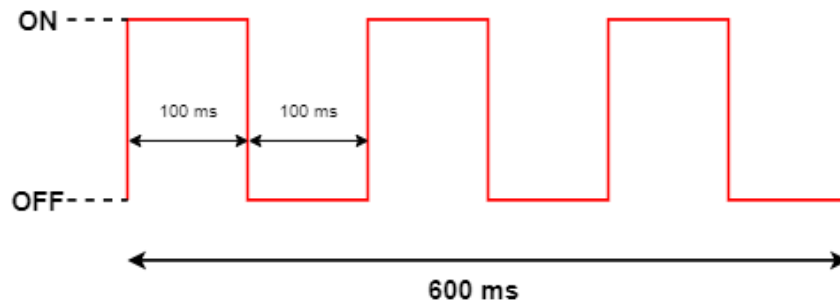

Figure 3-4: The RED LED Pattern Before Entering DEEP SLEEP
2. Immediately, **RED** is toggled ON and OFF 3 times: every 100 ms for 0.6 sec as shown in Figure 3-4.